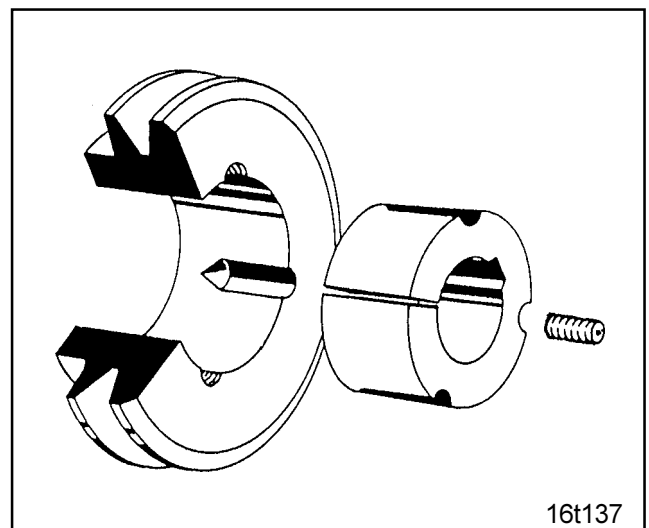

Fig. 7.9
- Turn out one bolt and bolt into the bore (Fig. 7.9)